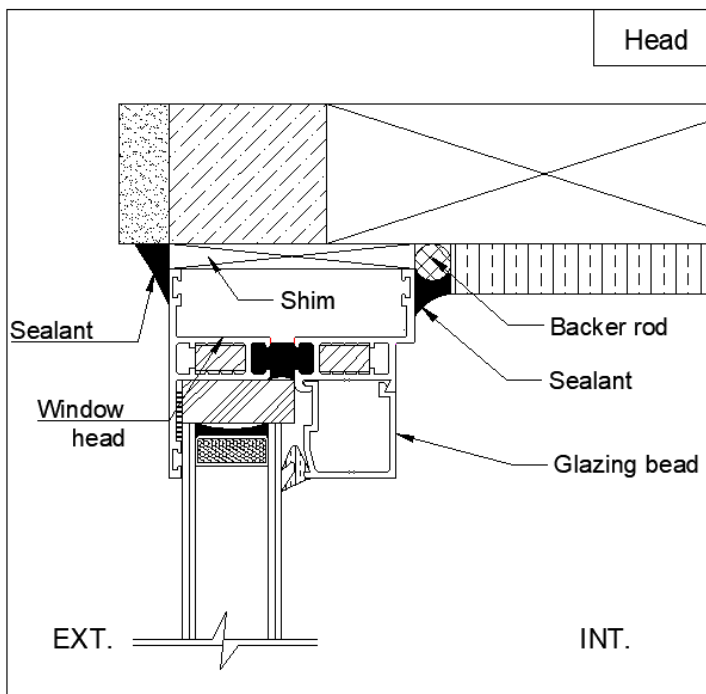

Figure 4: Side View of Head
2.3 Insert proper shim on the top of window head, make sure there's no gap between the window frame and opening (refer to figure 4). Check the sill is level, both jambs are plumb. Measure the diagonals of window frame to check the squareness, the difference of diagonals should be within 1/8".